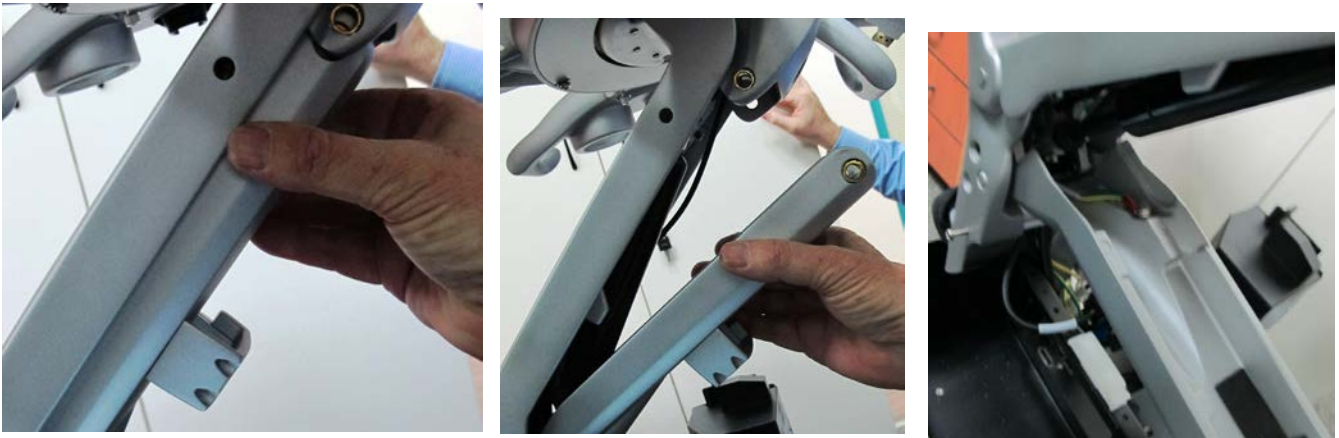

Figure 8-80 Upper Section of Lower Arm
5.) Lower the Lower Arm as shown in Figure 8-80 below.
- 6.) Supporting the OPIO platform with one hand, using the shaft previously removed, attach the upper section of the lower arm to the upper arm - refer to Figure 8-79 on page 8-65 and Figure 8-80 on page 8-66.